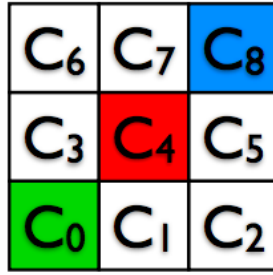

Figure 1: Grid world for Exercise 1.
**Exercise 1:** Consider a robot over the grid world shown in Figure 1. Express the following specifications formally in temporal logic and synthesize a reactive planner that realizes the specifications. The robot occupies only one cell at each time instance. It can move only to an adjacent cell, i.e., a cell that shares an edge with the current cell. The robot is supposed to visit the blue cell  $C_8$  infinitely often. There is a dynamic obstacle moving over the same grid world. The obstacle can be in one of the three cells  $C_1$ ,  $C_4$  and  $C_7$  and it can move arbitrarily but it is known to move to an adjacent cell in each transition. The controlled robot is to avoid the obstacle (i.e., not occupy the same cell) at all times. There is an uncontrolled external signal, call it PARK. The robot is to eventually go to the green cell  $C_0$ , whenever it receives a PARK signal. The PARK signal is known not to be received infinitely often.